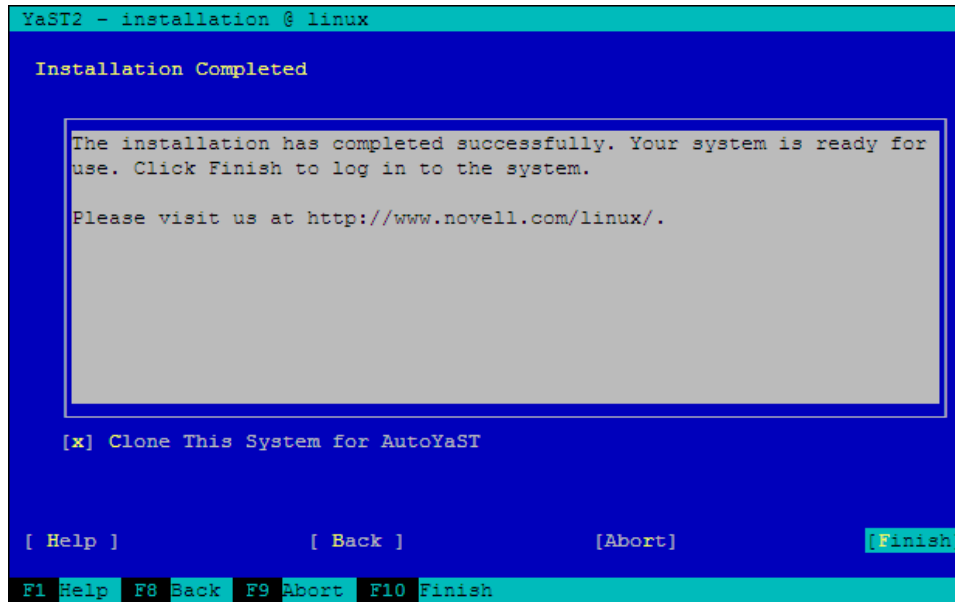

Figure 9-35 Installation completed window
28. YaST displays the Installation Completed window (Figure 9-35). Select **Clone This System for Autoyast** (see “SLES 11 automated installation” on page 395 for more information) if desired and then select **[Finish]**.
2. In the Installation Completed YaST window (see Figure 9-35 on page 393), select **Clone This System for Autoyast** and then select **[Finish]**. This creates an Autoyast profile in `/root/autoinst.xml` that is ready for immediate use.